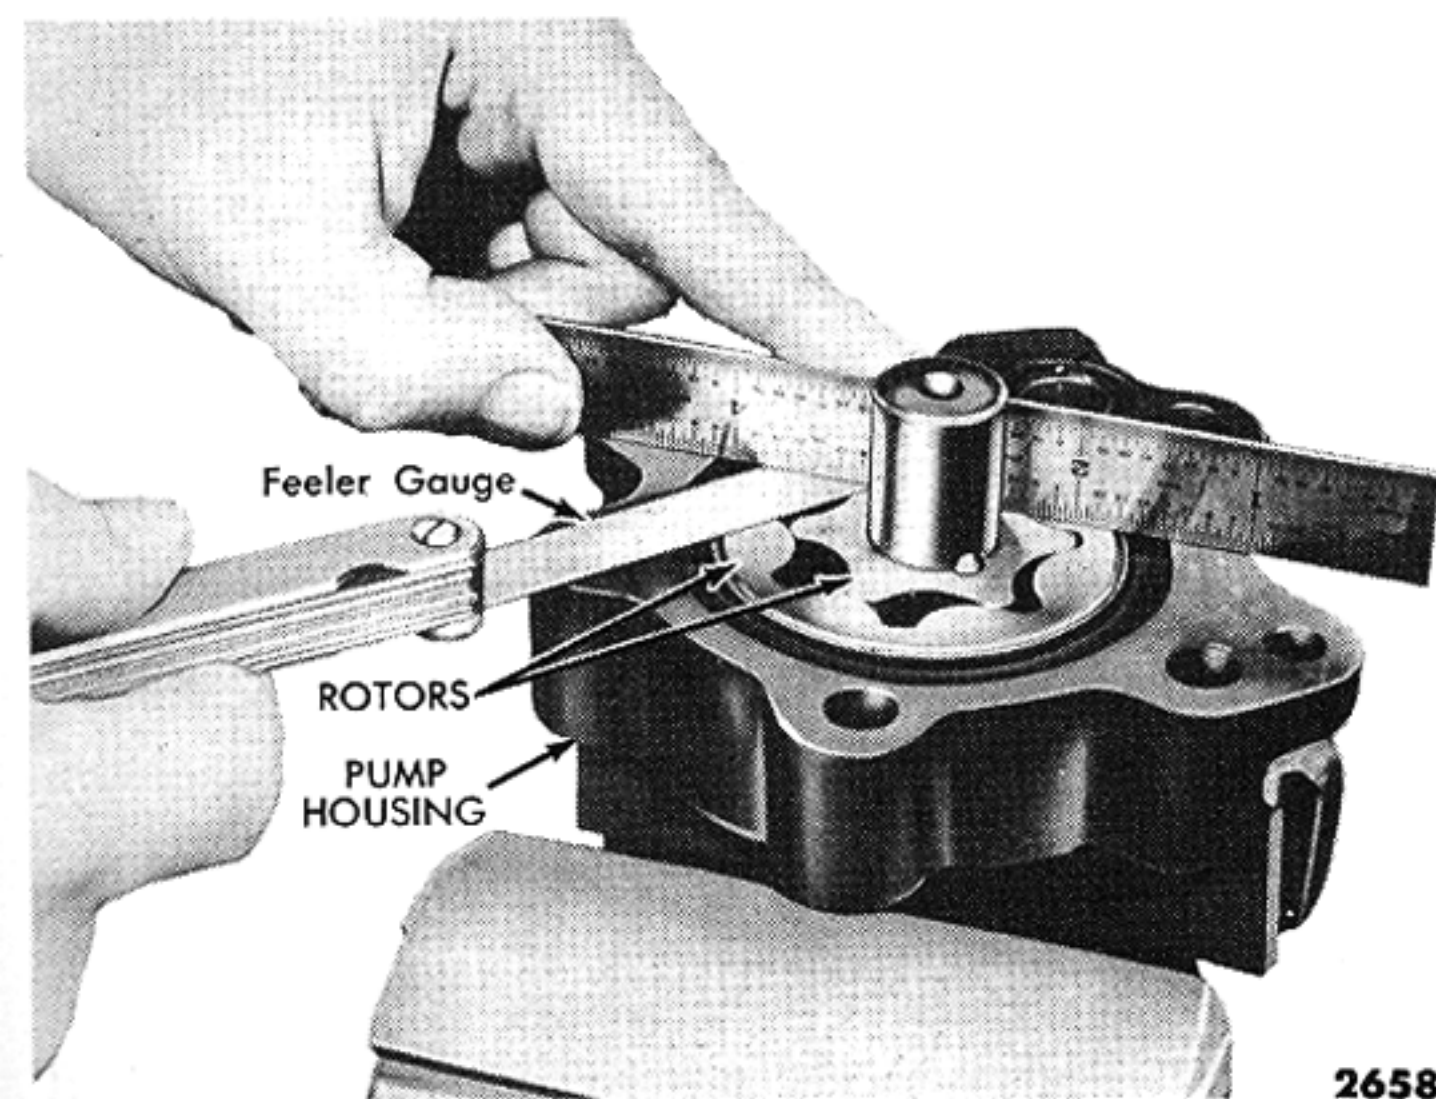

Figure 10—Checking Rotor to Pump Body Clearance
3. Check the clearance between the top of the rotors and the surface of the pump body with a feeler gauge and a straight edge as shown in Figure 10. If the clearance exceeds 0.0025 inch, replace the pump body and rotor assembly.